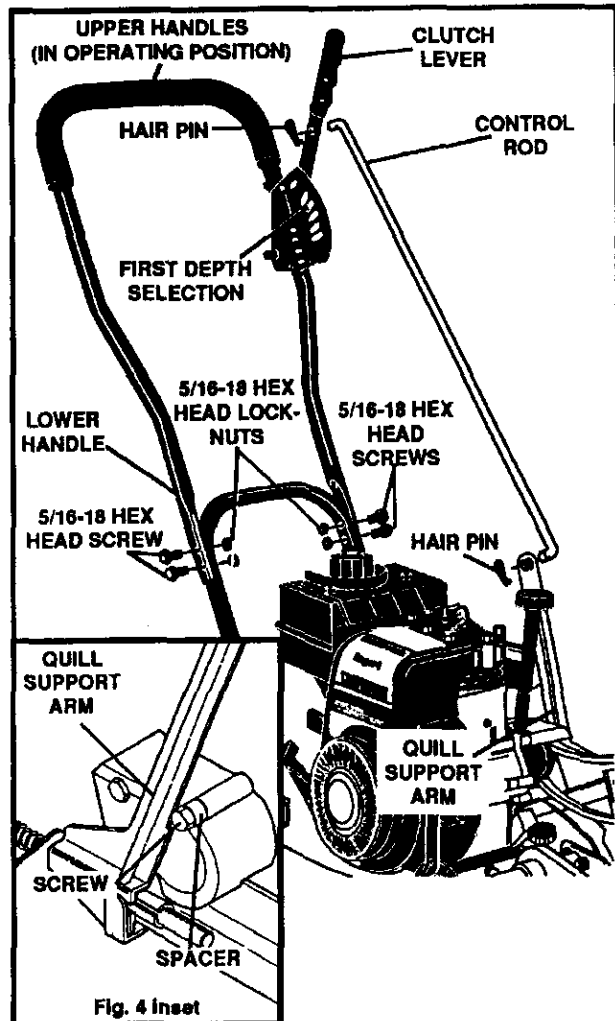
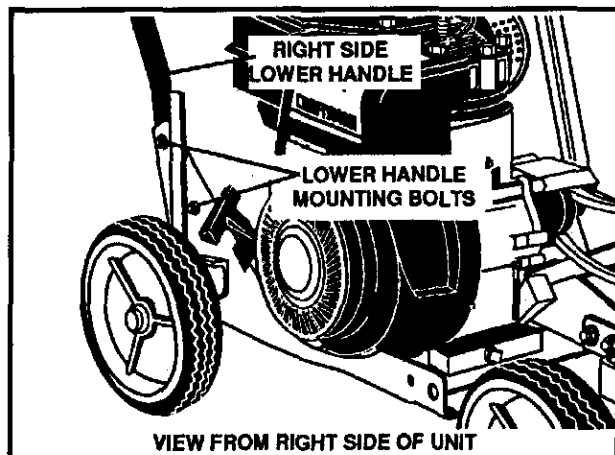

FIG. 3
FIG. 4
- Place the upper handle on the lower handle (See Fig. 3), align upper handle holes in the lower handle, and secure in place with four (4) 5/16-18 x 1-1/4 inch hex head screws and four (4) 5/16-18 hex head locknuts (found in parts bag). Locknuts should be to the inside of the two handles as shown in Fig. 3.
- Insert one end of the control rod from left to right through the hole in the clutch lever (See Fig. 3) and attach with a hair pin (found in the parts bag).
- Place the clutch lever in the first depth selection (Fig. 3) and insert the other end of the control rod through the hole in the quill support arm (See Fig. 3). Attach with hairpin (found in parts bag).
NOTE: If it is difficult to get the clutch lever into NEUTRAL, it may be necessary to loosen the four screws and nuts holding the lower handles to the frame (See Fig. 4). Pry up (forward) on the handles only enough to allow the clutch lever to freely enter the NEUTRAL position. Re-tighten nuts and screws. When the clutch lever is in NEUTRAL the quill support arm should be against the spacer and screw behind it (See Fig. 3 inset).